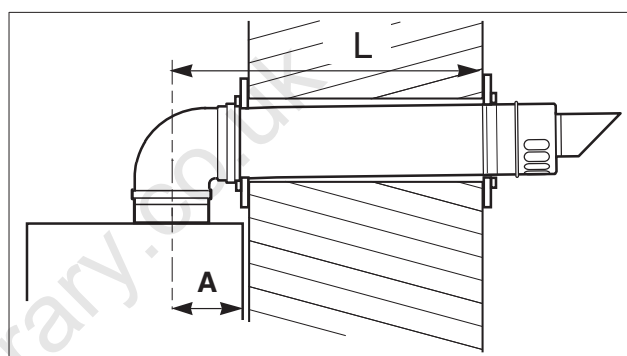

fig. 33 Flue length - rear
- Measure the flue length L. Refer to figures 33 and 34.